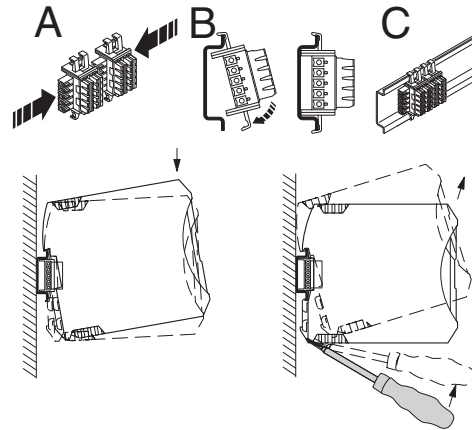

Figure 4 Assembly and Removal
- When using the DIN rail connector, first place it into the DIN rail (see A – C, Figure 4). It is used to bridge the voltage supply and for error messages.